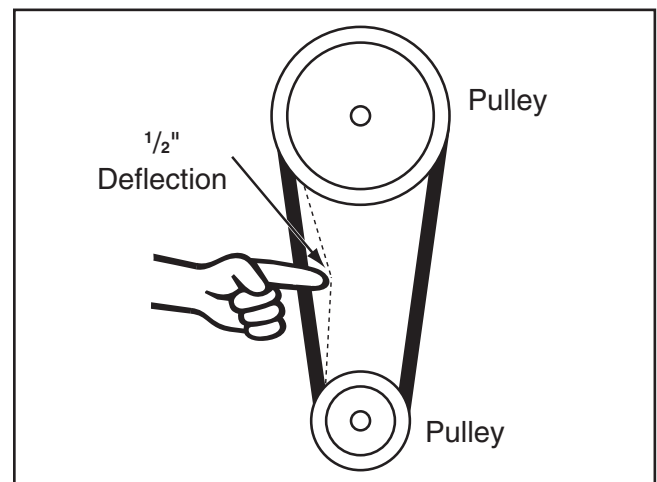

Figure 28. The correct amount of V-belt deflection when properly tensioned.
7. Check the V-belt tension by applying moderate pressure on the V-belt with your finger between two pulleys. The proper amount of deflection of the V-belt for this machine is approximately $\frac{1}{2}$ " (see **Figure 28**).